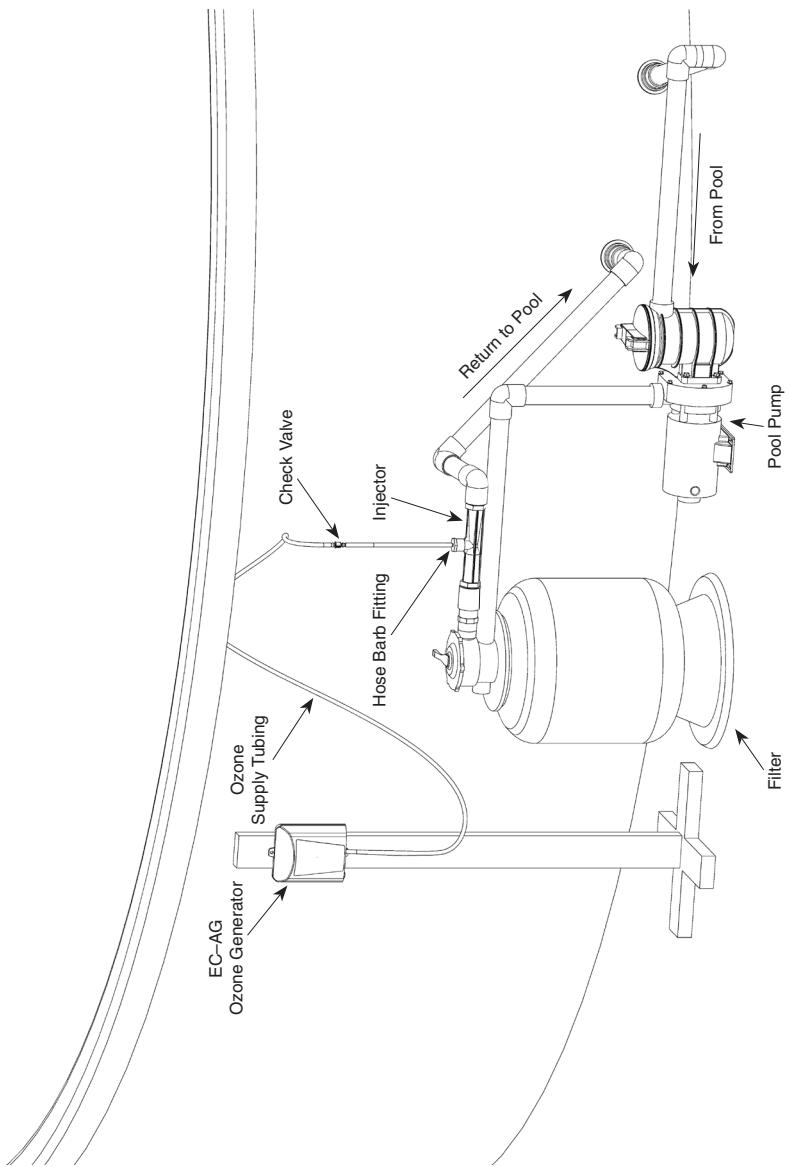

Figure 2: Typical Injector Installation (Pool without heater)
**Note:** Figure 2 and the instructions below describe Injector installation immediately after the Filter. For pools equipped with a heater, the Injector must be installed AFTER the heater. The fittings provided may be used to connect the Injector directly to the wall of the pool or the outlet of the heater.